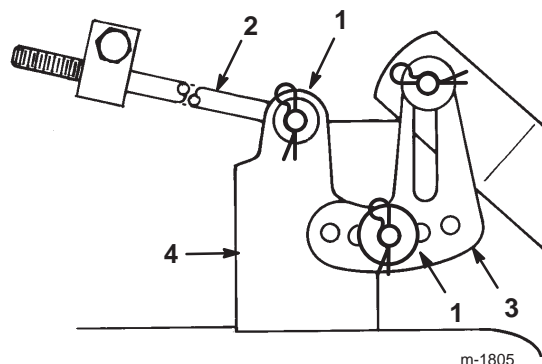

Figure 48
10. Remove the hairpin cotter and washer from the leveling bracket (Fig. 48).
11. Position the leveling bracket in a different hole and install the washer and hairpin cotter (Fig. 48).